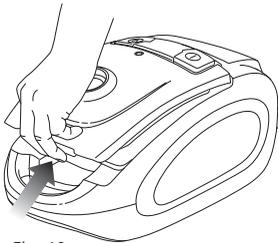

Fig. 10
- 3 Place your fingers underneath the opening indentation behind the vacuum handle and lift the top cover up. (Fig. 10)